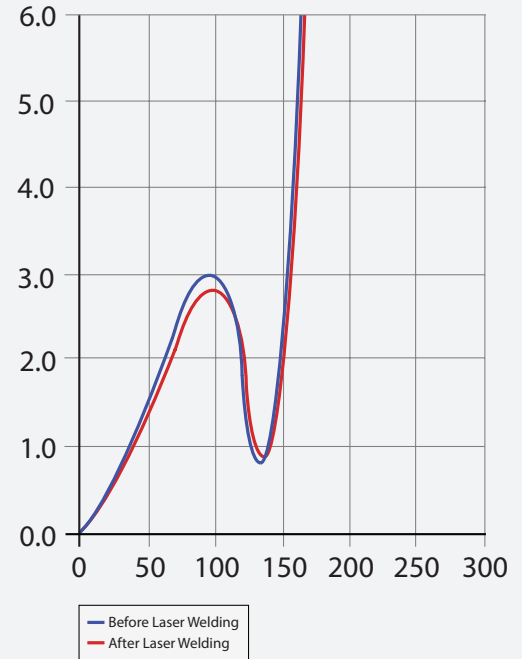

Figure 4
- **Preserves crisp switch feel.** The laser welded nylon film has only a negligible affect on actuation force and click ratio. To take one example, the click ratio changed from 70.15% without the laser welded film to 68.28% with it—for a minor two percent change (See Figure 4).